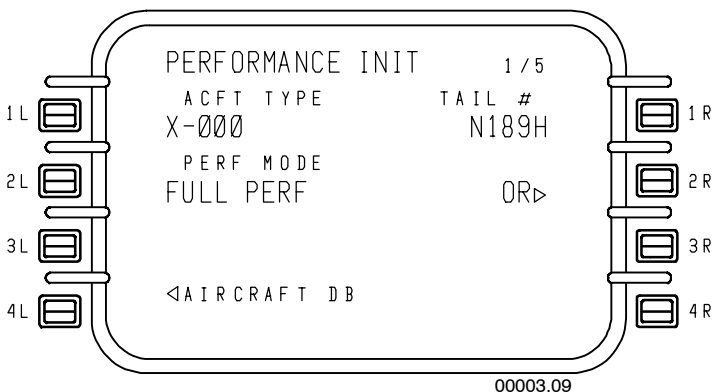
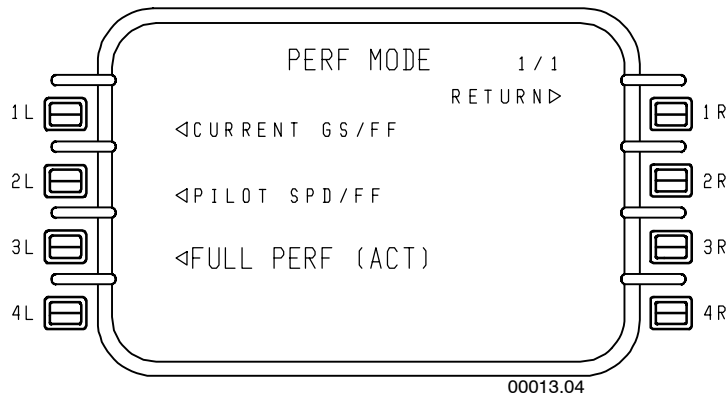

Figure 5-7
Figure 5-8
- **PERFORMANCE INIT 1/5** – Figure 5-7 contains information about the following:
- **2L** – The FMS has three perf modes or methods of performance calculations. Use the OR prompt at 2R to change the modes (see Figure 5-8).
- **PERF MODE 1/1** – Selecting the OR prompt at 2R, shown in Figure 5-7, displays the PERF MODE page, shown in Figure 5-8. The PERF MODE page is used to select the mode for performance calculation.